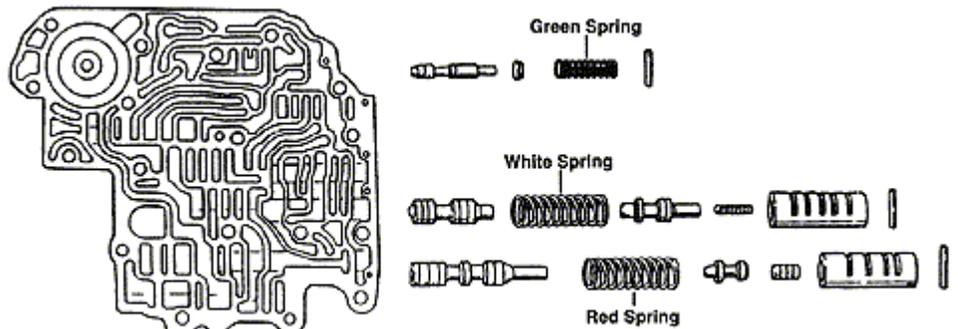

Figure 4
STEP 7 Valve Body: Place the valve body on the bench with the channel side up. Remove the roll pin holding the 2-3 shift control valve sleeve in place. **(See Figure 4)** Remove the sleeve carefully. This may require a little prying with a small screwdriver. Try not to raise any burrs during removal. Next, remove 2-3 shift valve spring. Discard this spring and replace it with the white spring supplied with the kit. Note: The small tapered end goes in first. Install the 2-3 shift control sleeve assembly as removed. Align sleeve and install retaining roll pin.
STEP 8 Remove the roll pin holding the boost valve sleeve in place. Remove the sleeve carefully. Again, this may require a little prying with a small screwdriver. Remove the pressure regulator spring and discard it. Replace with the red spring supplied with the kit. Note: This small tapered end goes in first. Replace sleeve assembly and roll pin. **(See Figure 4)**
STEP 9 Remove the roll pin that holds the detent regulator spring in place. Discard the spring and install the special green spring supplied in its place. Install the pin as removed. **(See Figure 4)**